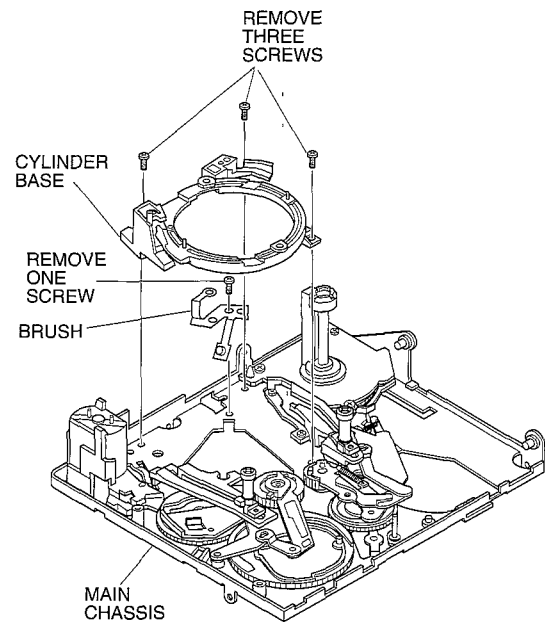

Fig.2-10
- (1) Remove 3 screws. (See Fig. 2-10)
- (2) Remove 1 screw.